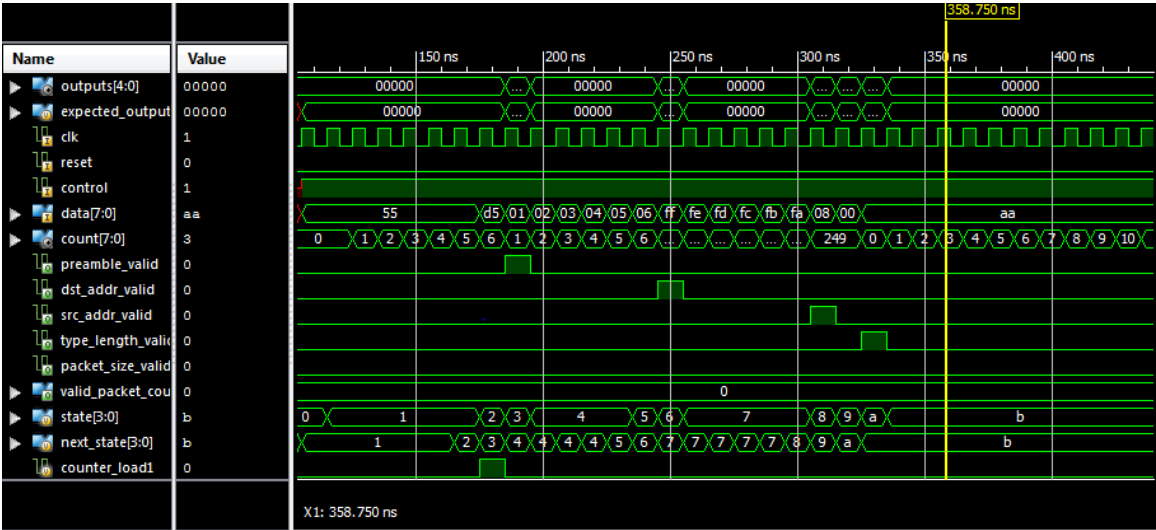
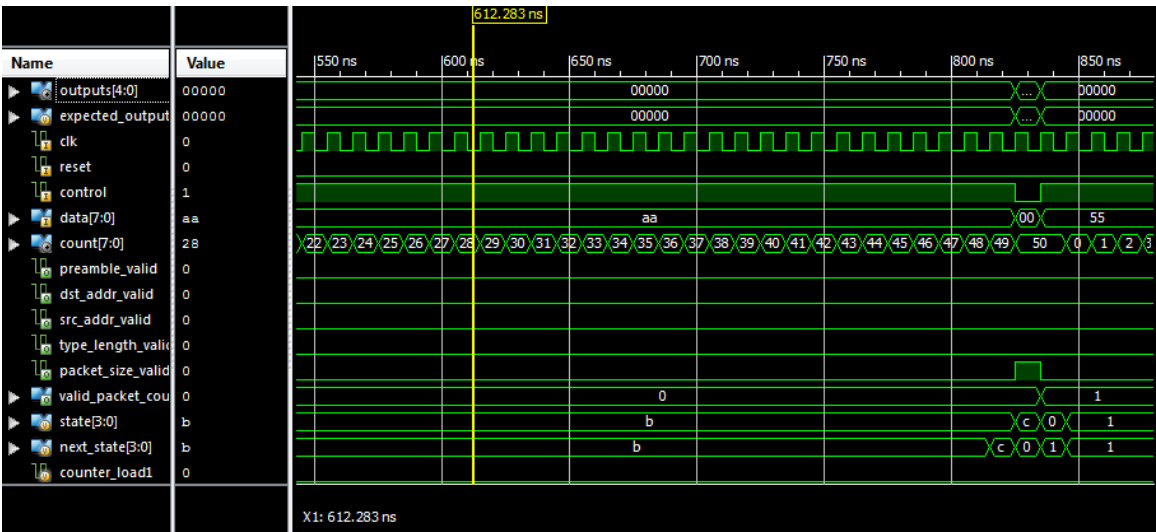

Figure 8-1: Valid packet
Figure 8-2: Valid packet
-Valid packet (Figure 8-1) & (Figure 8-2):